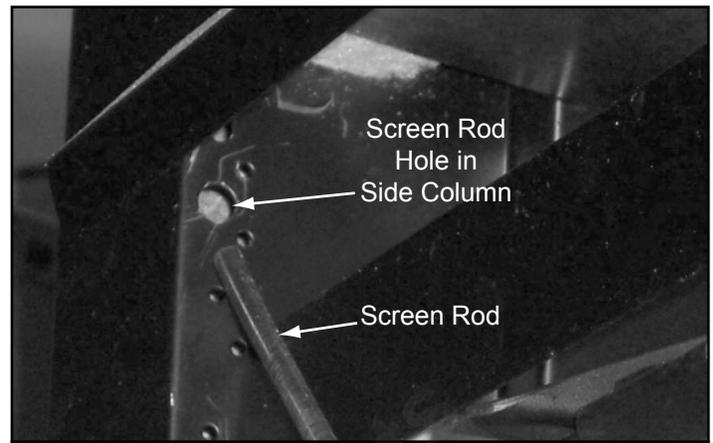

Figure 12.9 Insert Rod Into Side Columns
- Insert one end of screen rod into the hole located in the column as far as it will go. See Figure 12.9